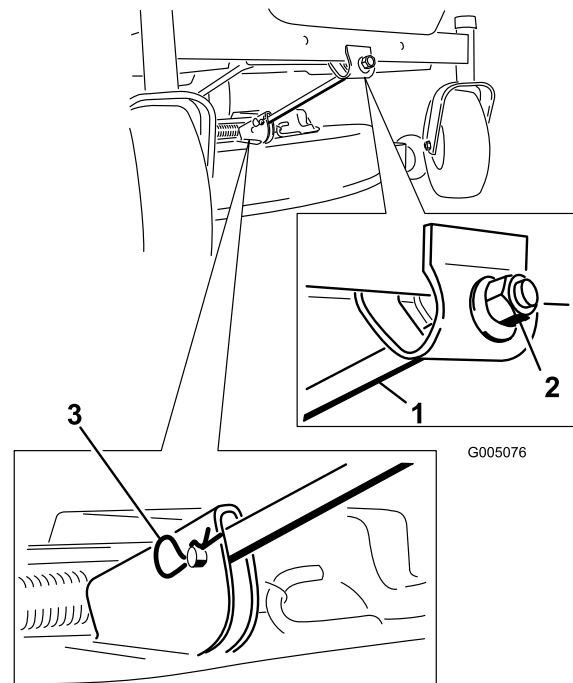

Figure 52
4. Remove the hairpin cotter and clevis pin from the front support rod (Figure 52). Carefully lower the front of the mower deck to the ground.
6. Attach the front support rod to the mower deck with the clevis pin and hairpin cotter (Figure 52).